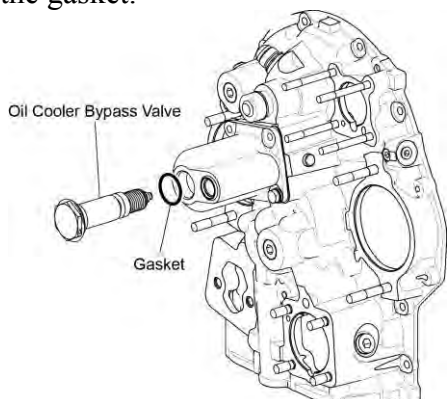

Figure 8
On engines with an oil pressure screen (Figure 8). Remove the thermostatic oil cooler bypass valve and gasket from the oil pressure screen housing. Discard the gasket.
On engines with an oil pressure screen (Figure 8):
- B. Install the thermostatic oil cooler bypass valve with a new gasket on the oil pressure screen housing (Figure 8).